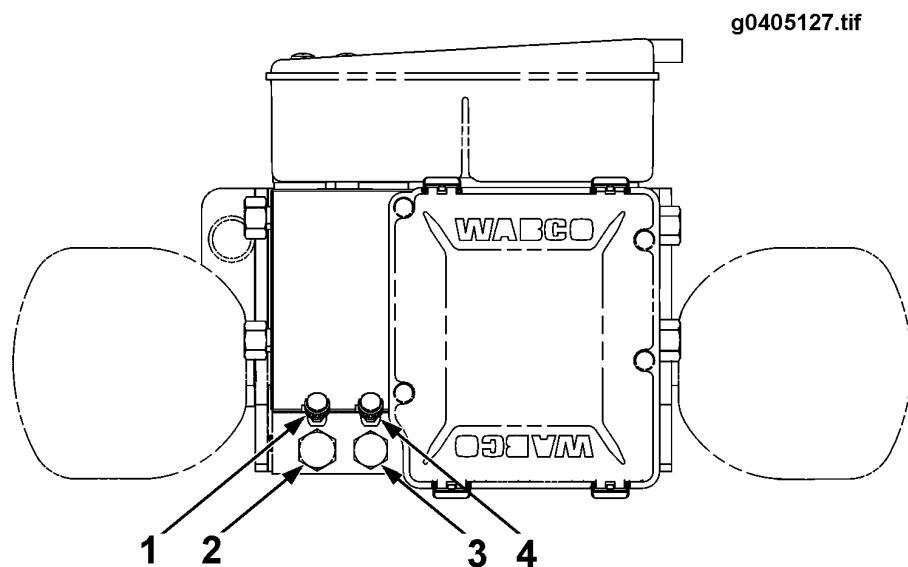

Figure 27 Bleeder Screws on HCU
10. Fit bleeder hose onto one relay valve bleeder screw located on the HCU. Refer to FIGURE 27. (NOTE: Both MC circuits can be bled at the same time by connecting two bleeder bottles.)